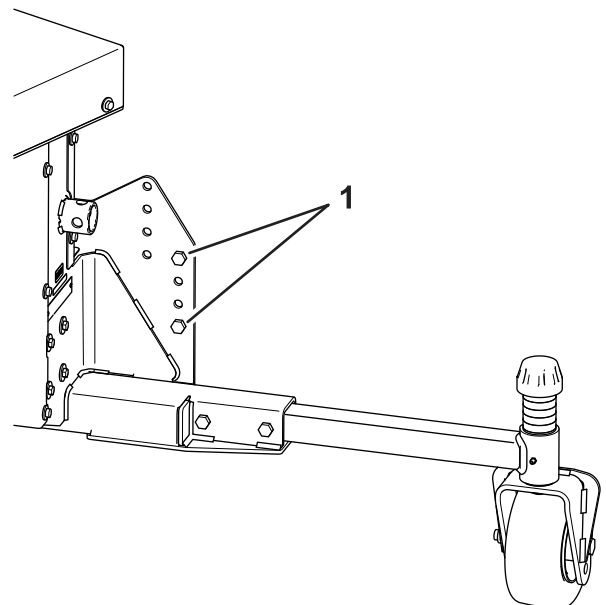

**Figure 8**
10. Insert the jack-stand tube into the frame tube, align the holes, and secure it into position with the snapper pin (Figure 8).